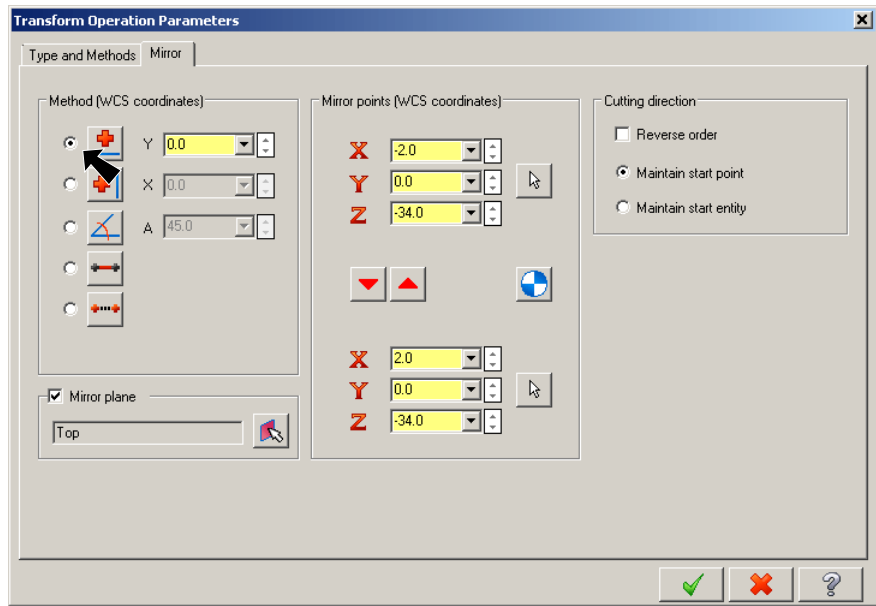

Fig. 27
Step 7. Under Method, select **Mirror about X axis** , Fig. 27.